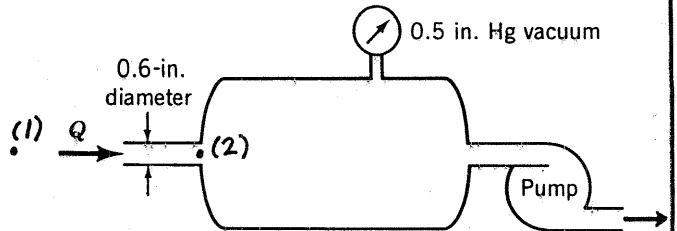

FIGURE P3.59
3.59 Air at 80 °F and 14.7 psia flows into the tank shown in Fig. P3.59. Determine the flowrate in ft³/s, lb/s, and slugs/s. Assume incompressible flow.